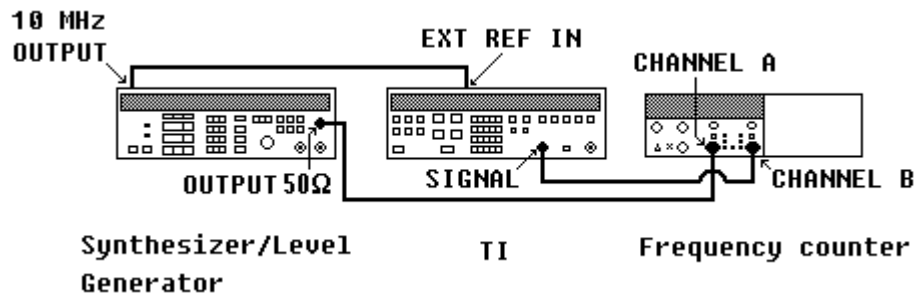

Figure 4. Phase increment - equipment setup.
- (1) Press keys and enter values using **DATA** keys as listed in (a) through (f) below:
- (2) Connect equipment as shown in figure 4.
If TI has option 001, remove the connection from **10 MHz OUTPUT** to **EXT REF IN** (rear panel) (fig. 4).